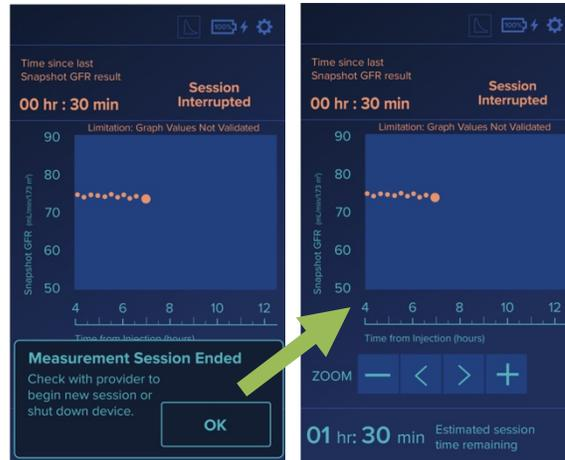

Figure 29. Detached sensor AFTER first reading.
If the sensor becomes detached from the patient **after readings have been plotted**, the end session message will be displayed as shown in Figure 29. Select OK. A message stating "Session Interrupted" will be displayed on the screen.
- The screen will display "NEW" and "CONTINUE" options. (see Figure 29) Ensure the patient can remain still for the skin tone adjustment sequence. You must select "NEW" to attempt a new skin tone adjustment. Select the sensor location and continue following prompts.